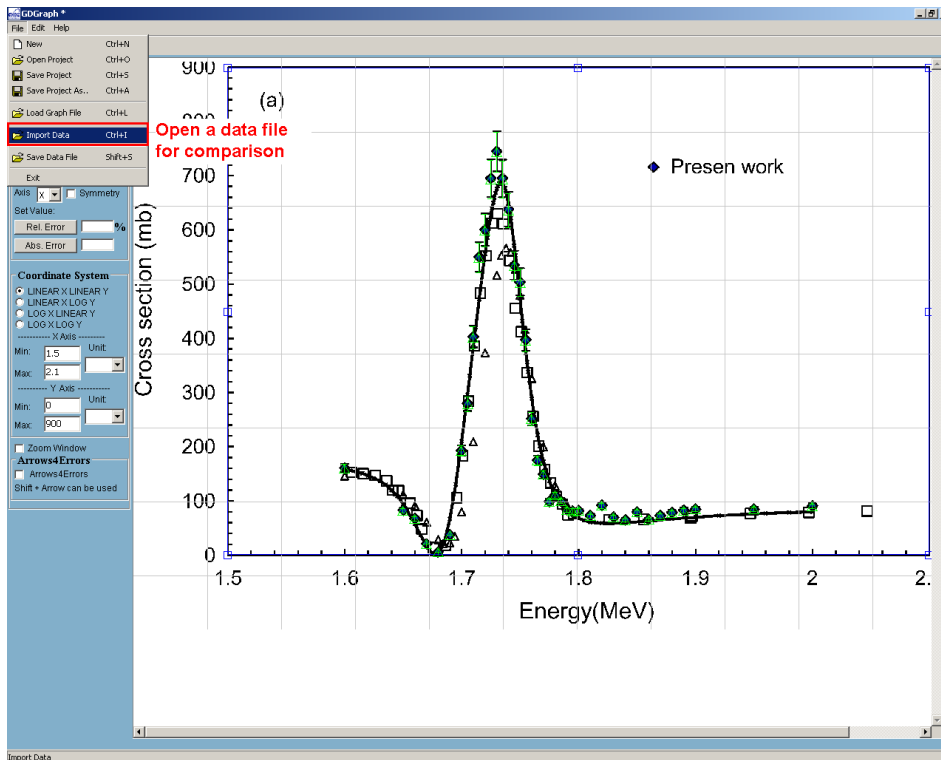

Figure 3.1 Load a "Import data" file for comparison.
- Use "Import Data" from the "File" menu to open a data file as shown in Figure 3.1;